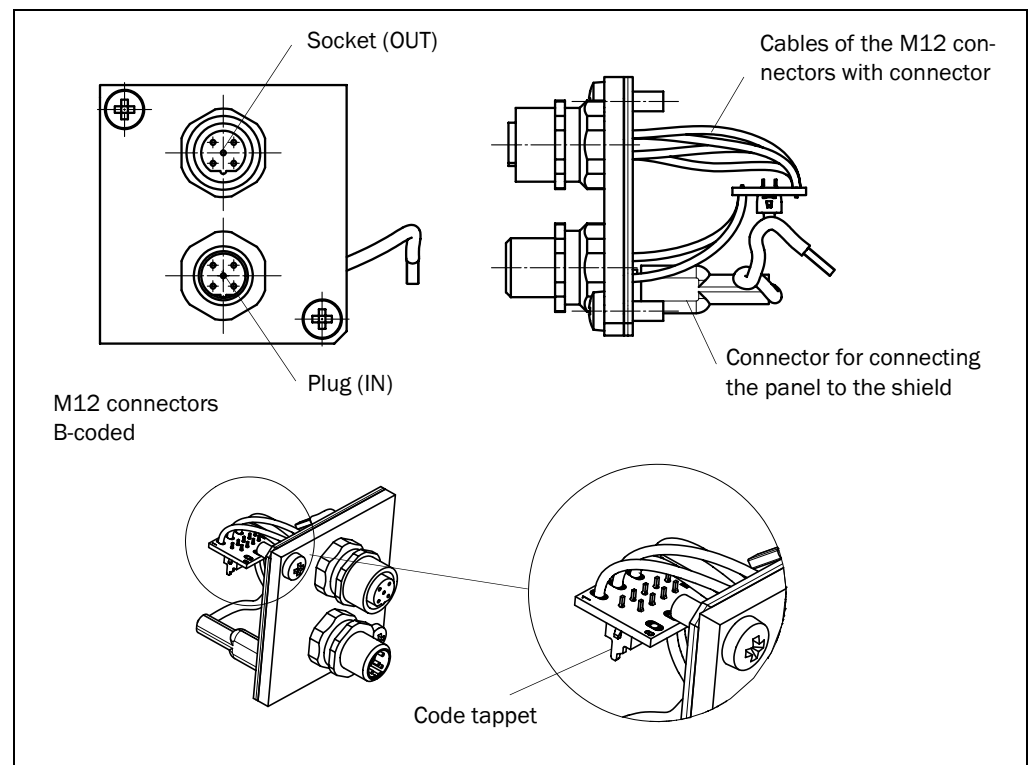

Fig. 2-4: Front panel of the CMF 400-1201: M12 connectors (IP 65) for Profibus DP
1. Connect the shield connector to the new front panel (*Fig. 2-4*).